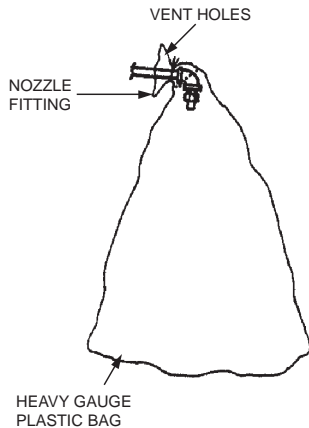
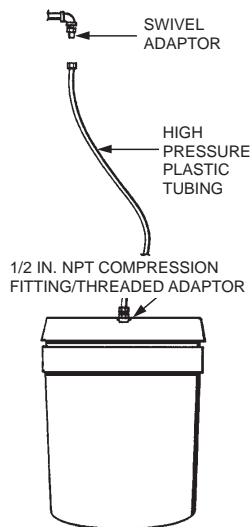

FIGURE 2
FIGURE 3
10. To perform the flushing procedure, either secure heavy-duty plastic bags to each nozzle (see Figure 2) or remove each nozzle and attach plastic tubing (see Figure 3). (**NOTE:** Remove nozzle from swivel adaptor. DO NOT loosen nut on swivel adaptor. Swivel adaptor must remain in position so aiming angle does not change. If swivel adaptor is loosened or moved, nozzles must be reaimed.)